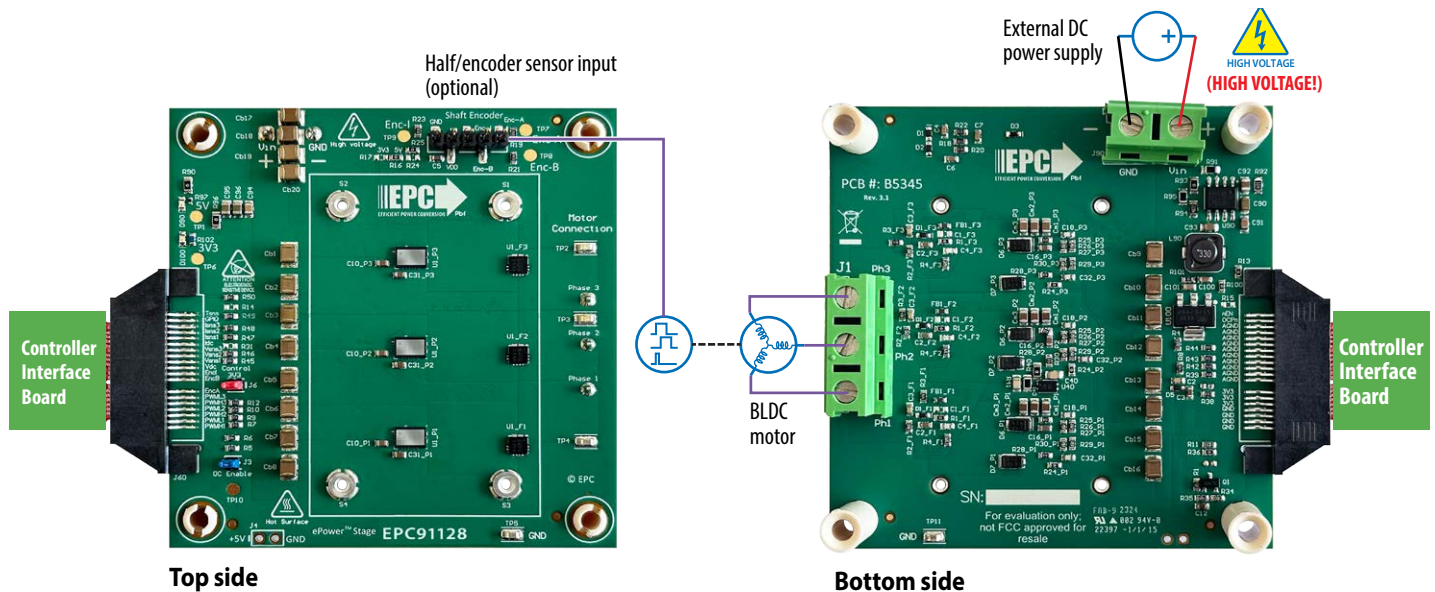

Figure 6: Connection diagram of the boards configured as a motor drive inverter
A 3-phase BLDC motor drive inverter is the primary application for which the boards were designed for and can be used for sensor-less or shaft encoder sensor configurations. The motor drive controller options are given in Table 4, giving the user various mainstream choices that leverage existing resources to simplify and speed up development and evaluation. Figure 6 shows the simplicity of connecting a controller and motor to the EPC91129. **In the default configuration, the EPC911xx are paired a NEMA 34 size motor from Teknic M-3411P-LN-08D, with DC supply voltage of 48 V using sensor-less field orientated control with space vector pulse width modulation (SVPWM).**
2. Connect the correct motor, whose parameters are programmed into the controller, to the board at connector J1 and the DC power supply at connectors J90 (**Observe correct polarity, there is no inverse polarity protection on board**) and shown in figure 6.